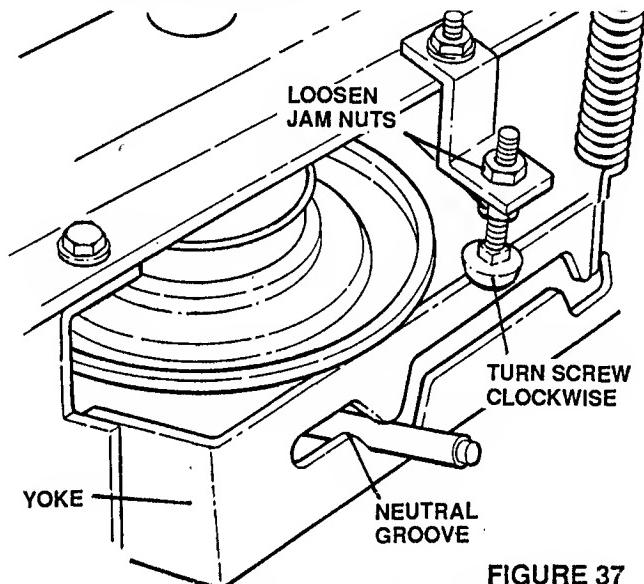

FIGURE 37
If rubber on driven disc ring wears enough to cause loss of traction, readjust the yoke stop (see Figure 37) to restore good contact. With engine "OFF" and drive shifted into "NEUTRAL", loosen the jam nuts and turn the bolt clockwise about two (2) turns. Check to see that rubber ring turns freely in the center or "NEUTRAL" groove - turn bolt in more if needed to achieve this, then secure bolt by tightening both jam nuts.